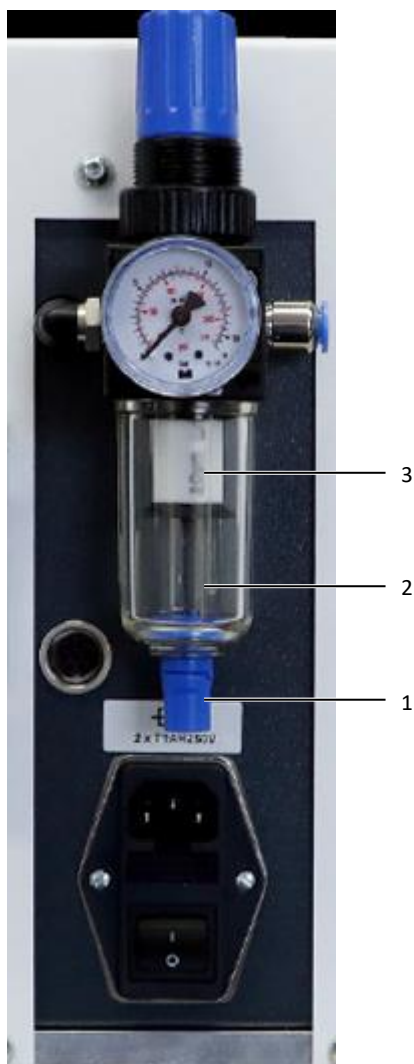

Fig. 16: Compressed air maintenance unit
- To drain the condensate, press the drain plug (fig. 16, item 1) upwards.
- To replace the filter, unscrew the condensate container (fig. 16, item 2) and screw out the filter (fig. 16, item 3).